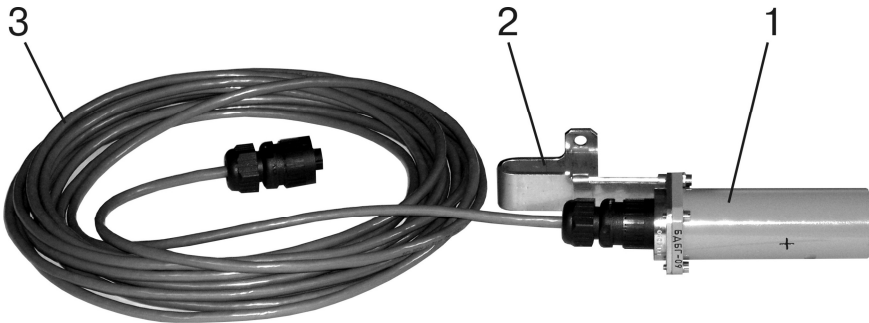

Figure 3 – External view of the detecting unit with the connecting cable
The BDBG-09 detecting unit (1) with the mounting bracket to vertical plane (2) and the connected cable (3) are presented in Figure 3.